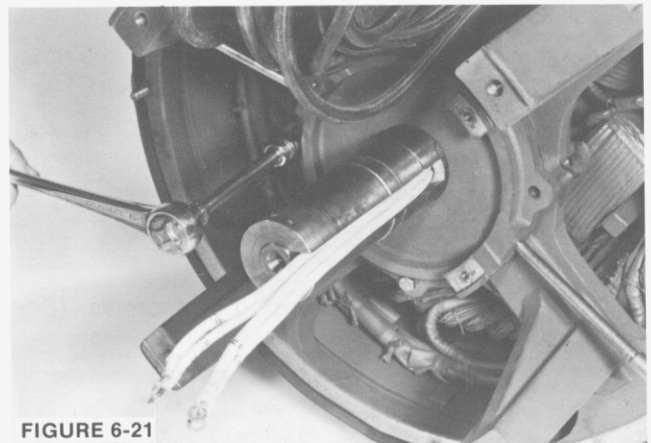
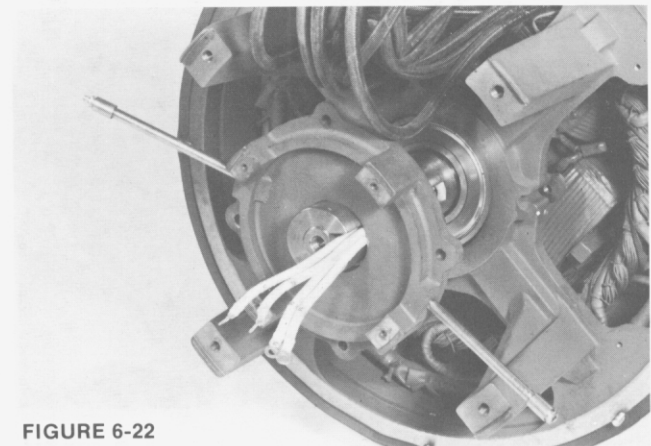
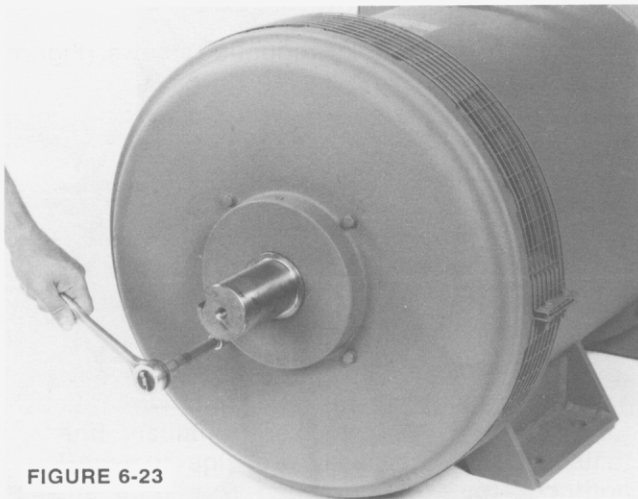

FIGURE 6-21
FIGURE 6-22
FIGURE 6-23
2. a. For single bearing generators, remove the four capscrews holding the bearing caps to the front end bracket. (Figure 6-21.) Remove the outer cap. (Figure 6-22.)
- b. For two-bearing generators, remove the drive coupling or sheave and key from the shaft extension. Remove the four capscrews holding the bearing lock to the drive end bracket. (Figure 6-23.) Remove the four capscrews holding the bearing caps to the front end bracket. (Figure 6-21.) Remove the outer cap. (Figure 6-22.)